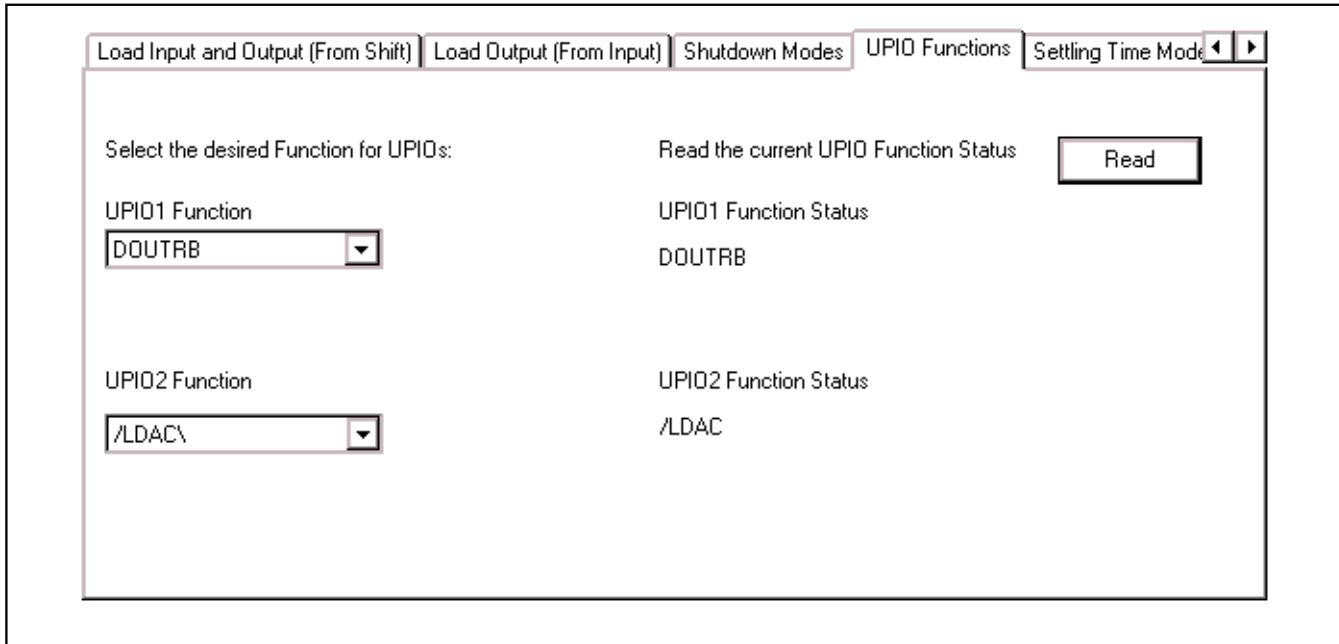

Figure 7. UPIO Functions Tab
The **UPIO Functions** tab, shown in Figure 7, allows the user to select the appropriate UPIO1 and UPIO2 functions using the corresponding combobox. The current UPIO1 and UPIO2 function status is displayed by pressing the **Read** button.
**Problem 3:** Pressing the **Read** button in the **Read UPIO Inputs** tab gives incorrect status (see Figure 7).